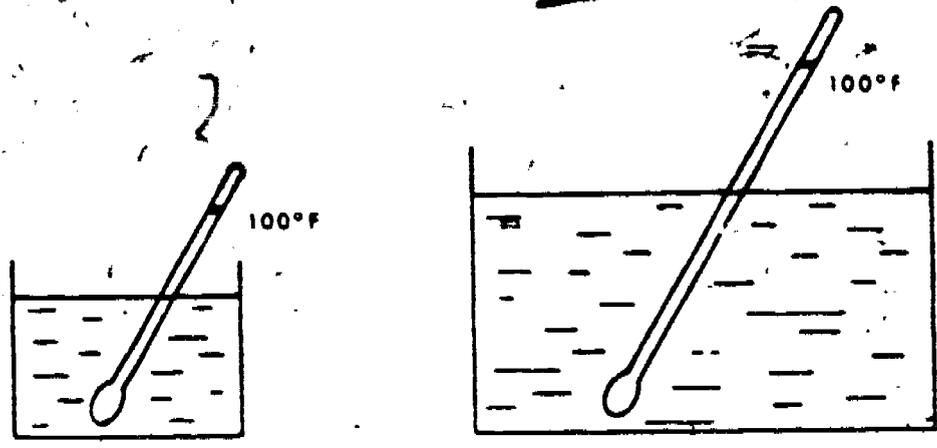

Figure 53. Temperature.
The amount of heat that an air conditioner is capable of removing is expressed in British thermal units (BTU). A thermometer indicates the degree or intensity of heat in a substance. It cannot be used to measure the amount of heat that a substance contains. As shown in figure 53, a one gallon container of water could be at the same temperature as a ten gallon container, but they would obviously contain a different amount of heat. The BTU is used as the unit measurement for amounts of heat. A BTU is defined as the amount of heat required to raise the temperature of one pound of water one degree Fahrenheit. Water is assigned a specific heat value of 1.00 and is used as the standard of all substances. A substance assigned a specific heat value of .5 means that 1/2 BTU is required to raise a pound of that substance one degree Fahrenheit (F). Air has a specific heat rating of .24. This means that for each degree of temperature change in one pound of air, then .24 of a BTU of heat will be removed.